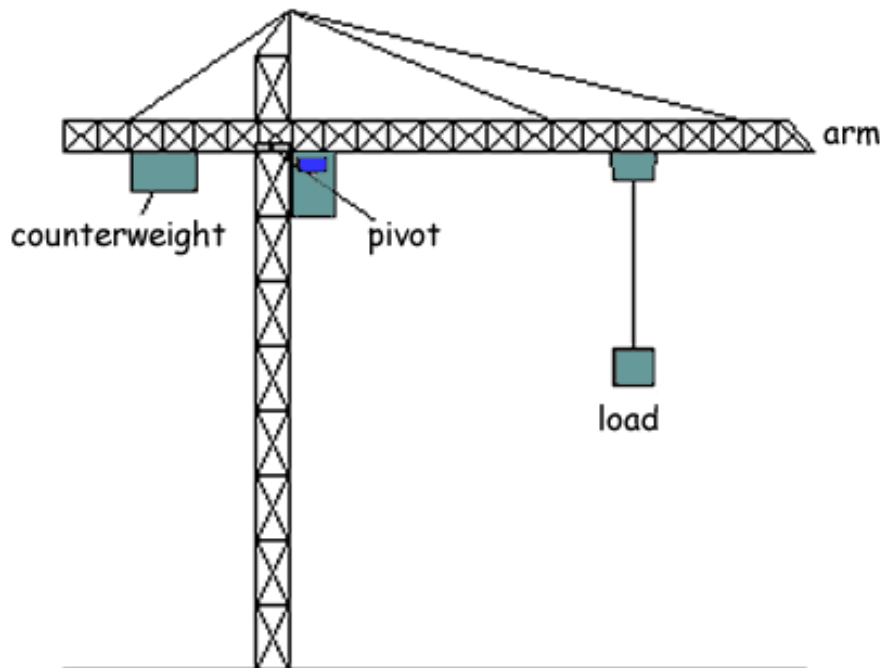

Figure 12: Crane structure
a. Figure 12 below, shows a crane structure.